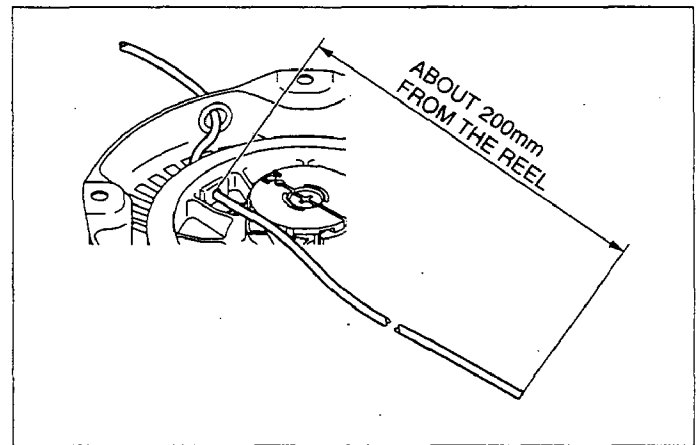

Fig. 9-7
- (3) Tightening the set-screw.
- (4) Storing the spring-power.
- 2: Set the ree to keep the position, whereby the rope hole of the reel and the rope guide make a direct line. (Fig. 9-7)
- (5) Setting the rope. (2 persons required)
- 1: Set the end of the rope through the rope guide and the rope hole of the reel and pull the end about 20 cm out of the reel. (Fig. 9-7)